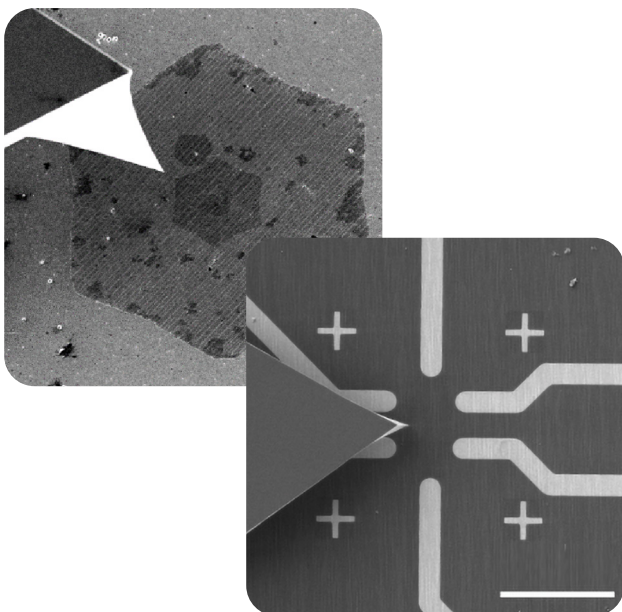

Figure 1: Precise AFM tip navigation to the region of interest.
- Fast and precise localization of nanostructures and nanodevices (**Figure 1**)